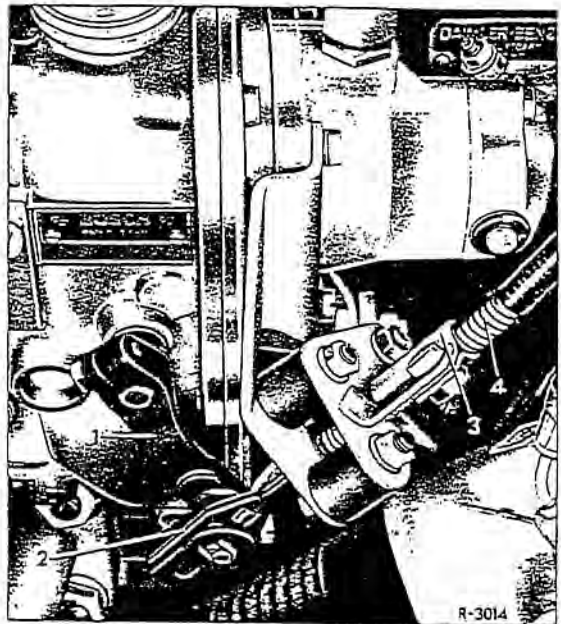

Fig. 00-8/7
13. Install the clamping jaws (8) between the pipe unions taking care to ensure that the tightening torque for the fixing screws does not exceed 0.9 mkp; excessive tightening may distort the injection pump housing and produce leakage of the elements on the low and high pressure side (Fig. 00-8/3).
16. Attach the starting and stopping cable to the adjusting lever (1) (Fig. 00-8/7) of the injection pump and check the adjustment of the cable (see Job No. 00-9).